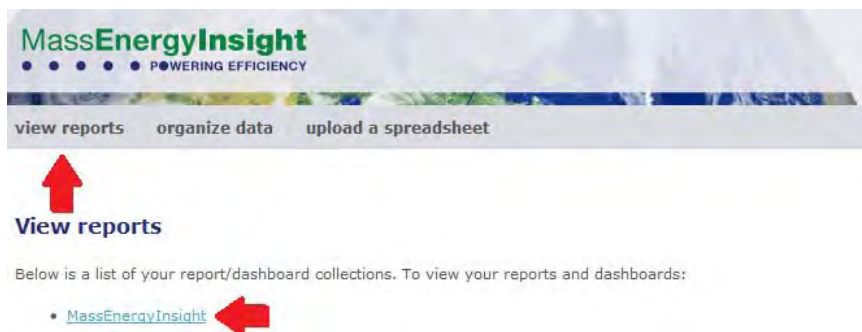

Figure 8: Viewing Reports in MassEnergyInsight
To view the "Setup Completeness Dashboard" and other reports, the user needs to navigate to the "View Reports" section (Figure 8) and use the pull-down menu at the far left (1) or the side scrolling arrows (2) to reach the desired report.